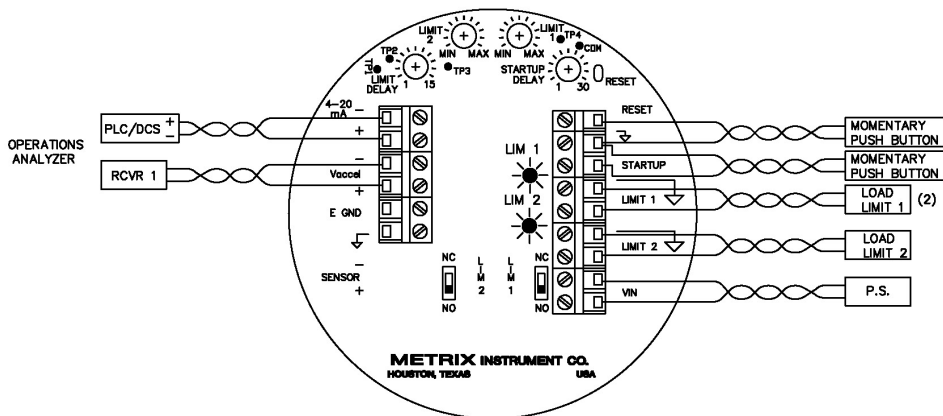

Figure 2: Wiring Diagram (LCD option not shown)
Refer to Figure 2 for wiring information. For incoming power and switch output(s) use approved wire of 14 AWG (1.5 mm2) or smaller.
- a. Set each SW6000 for N.C. (normally closed) operation. (See Figure 2)
The optional FET limit output(s) provide a low leakage switch for DC inputs to PLC's or other devices. Do not use on an AC supply. Observe proper polarity when wiring the FET(s) (See figure 2). Damage to the FET(s) will result from improper wiring. As with the triacs, the FET(s) can be set for N.C. or N.O. operation by positioning the Limit 1/Limit 2 switches accordingly.
If remote reset capability is desired, connect Reset terminals (see Figure 2) to a remotely located, momentary N.O. pushbutton switch. Observe hazardous area requirements if applicable.
If the optional 4-20 mA output is installed, it may be connected to a remote receiver, as shown on the wiring diagram (see Figure 2). This output is a current source (at 15VDC) and requires no external loop power supply. Full scale current (20 mA) corresponds to the full scale vibration response marked on the face plate. A current of 4.0 mA represents a zero vibration condition. The maximum load resistance is 600 ohms. In high electrical noise locations a shielded, twisted pair cable is recommended.
The Limit Setting adjustment allows the user to set the vibration levels at which a limit will trip. The adjustment has a range of -10% to 110% of the full scale vibration level. A midscale adjustment corresponds to a 50% vibration level limit. The limit setting can be set precisely by measuring the limit voltage with a DVM. The test points for measuring this voltage are labeled TP3 (Limit 2), TP4 (limit 1) and COM (common) on Figure 2. The DC voltage represents a percentage of full scale. For example, .46 VDC would represent a limit setting of 46% of full scale. Turning the adjustment to its minimum value (CCW) allows the user to test the trip circuitry, including LED's, time delays and triac (FET) switches.